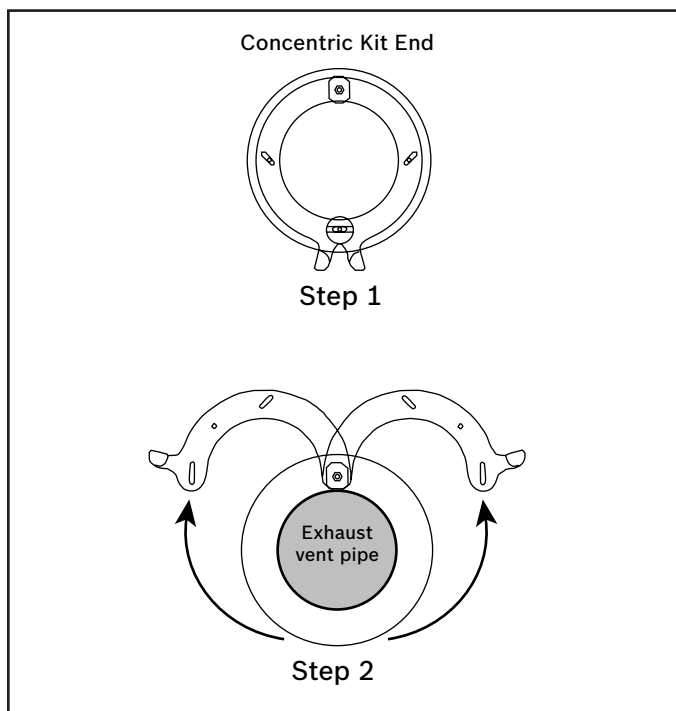

Fig. 3 Concentric end clamps
7. Locate end clamps on concentric kit (Fig. 3, step 1). Open clamps as shown in Figure 3, step 2.